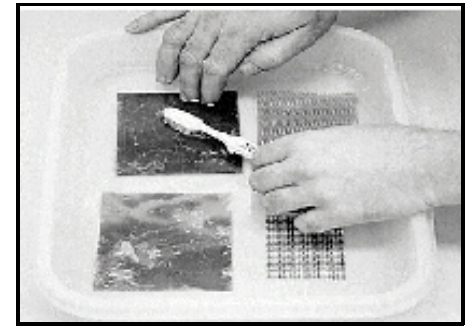

Figure 3
4. Place the mica sheet totally flat on bottom of the tray and with a toothbrush, water, and dish soap gently scrub both sides of mica to remove all oxidized material from the surface (SEE FIG. 3). Repeat procedure on stainless steel screen then rinse all parts in clean water.